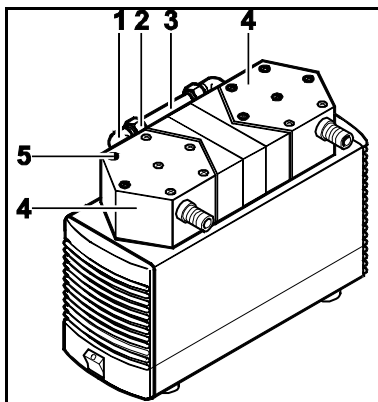

Fig. 7: Removing pump head
3. Loosen the outer screws (fig. 7/5) on the pump heads.